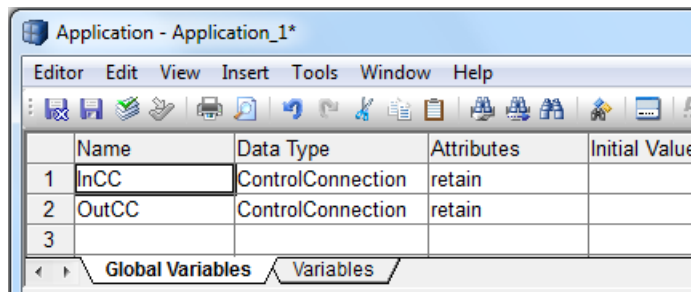

Figure 60. Global variables for connecting the CCTemplate object in the application
2. Declare two global variables (InCC and OutCC of ControlConnection) in the Application according to Figure 60.